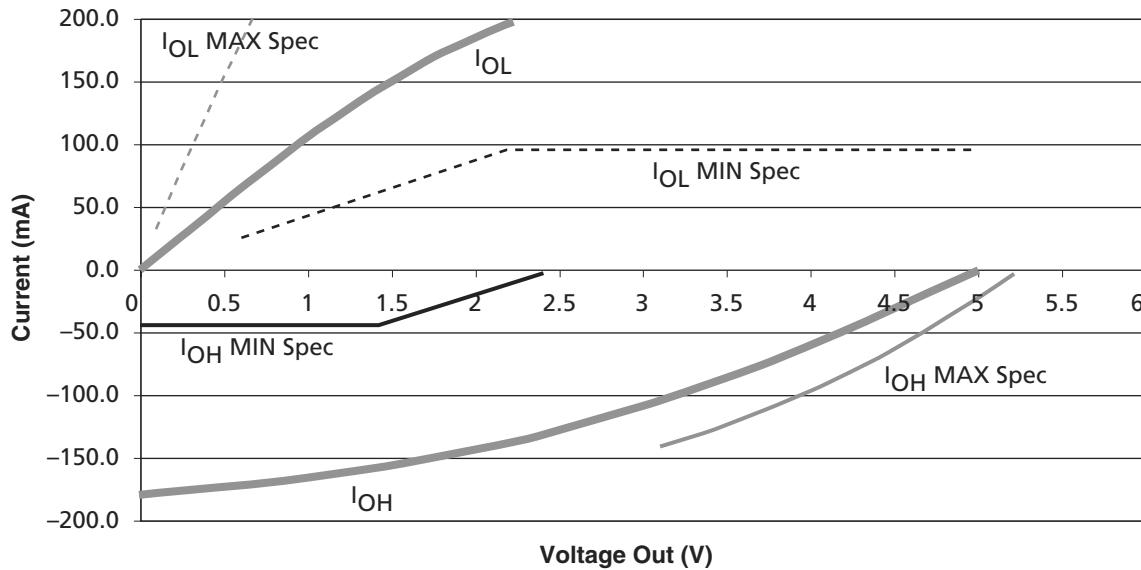

Figure 2-1 • 5 V PCI V/I Curve for SX-A Family
1. Refer to the  $V/I$  curves in Figure 2-1 on page 2-5. Switching current characteristics for  $REQ\#$  and  $GNT\#$  are permitted to be one half of that specified here; i.e., half size output drivers may be used on these signals. This specification does not apply to  $CLK$  and  $RST\#$ , which are system outputs. "Switching Current High" specifications are not relevant to  $SERR\#$ ,  $INTA\#$ ,  $INTB\#$ ,  $INTC\#$ , and  $INTD\#$ , which are open drain outputs.
3. Maximum current requirements must be met as drivers pull beyond the last step voltage. Equations defining these maximums (A and B) are provided with the respective diagrams in Figure 2-1 on page 2-5. The equation defined maximum should be met by design. In order to facilitate component testing, a maximum current test point is defined for each side of the output driver.
Figure 2-1 shows the 5 V PCI V/I curve and the minimum and maximum PCI drive characteristics of the SX-A family.